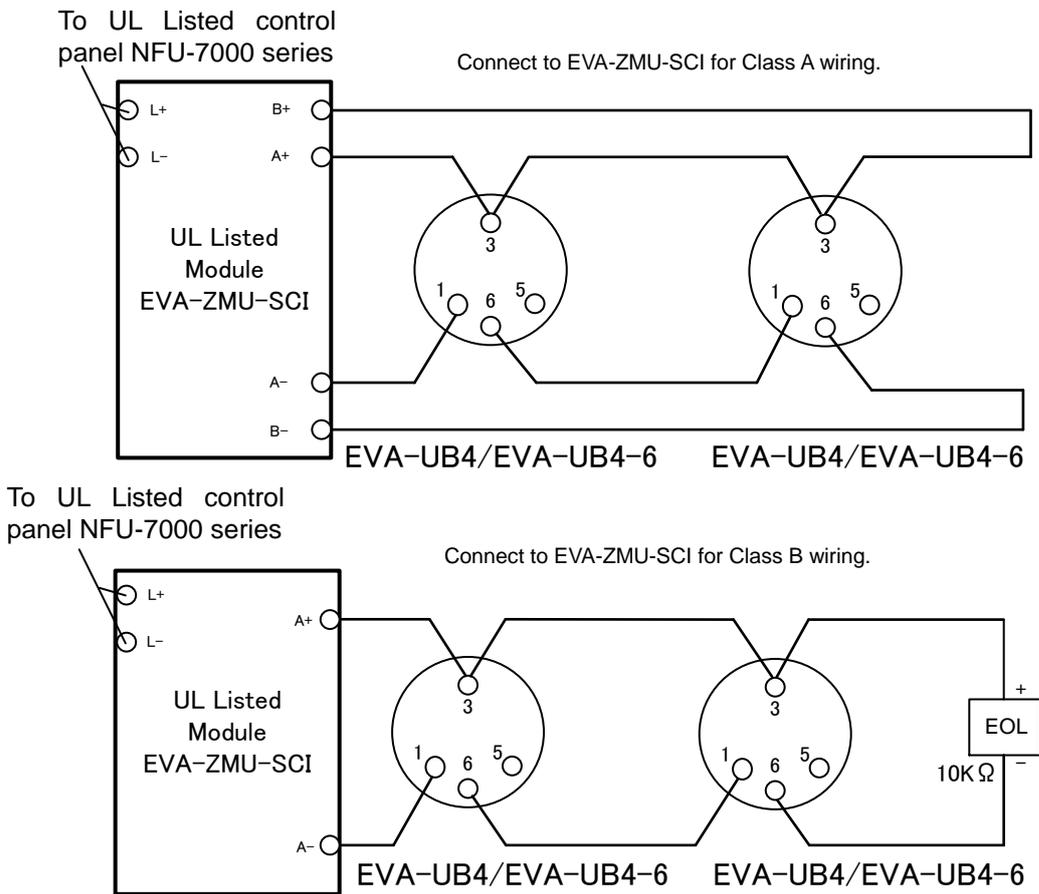
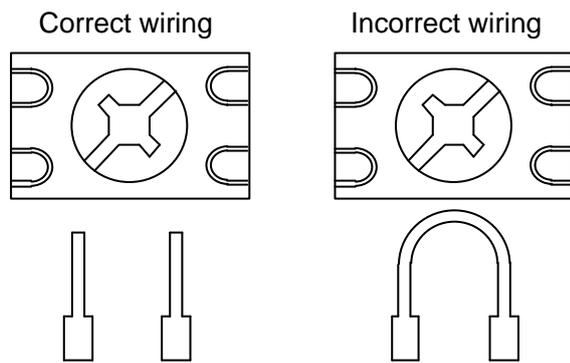

Figure 9: Wiring diagram for EVA-UB4 and EVA-UB4-6
Figure 10: Correct and incorrect wiring method
1. Pass the field wiring through the rear center cable opening in the mounting base. Install the base to the electrical box with screws via the base mounting holes. Connect the field wiring to the base terminals, as detailed in Figure 9. Do not use looped wire under terminals (See Figure 10).